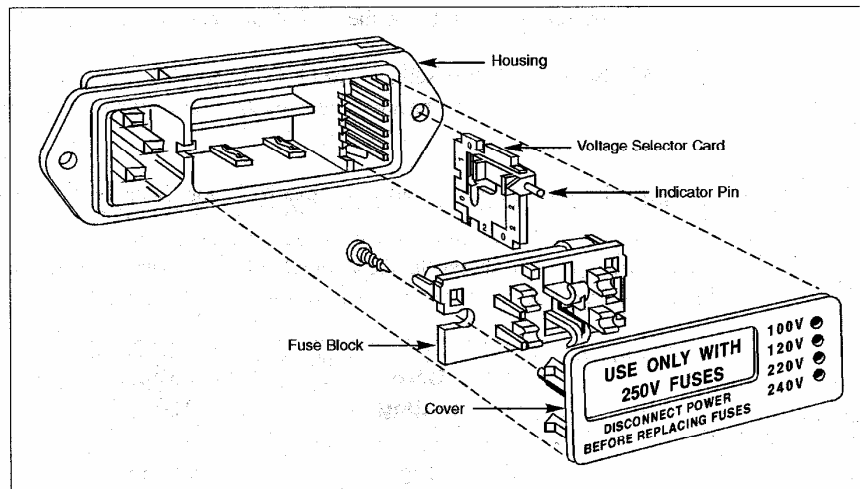

Figure 3.1 Removing the Selector Card
2. Set aside the cover/fuse block assembly and pull voltage selector card straight out of the housing, using the indicator pin (Figure 3.1).
5. Insert the voltage selector card into the housing, with the printed side of card facing toward the IEC connector, and the edge containing the desired voltage first (Figure 3.1).